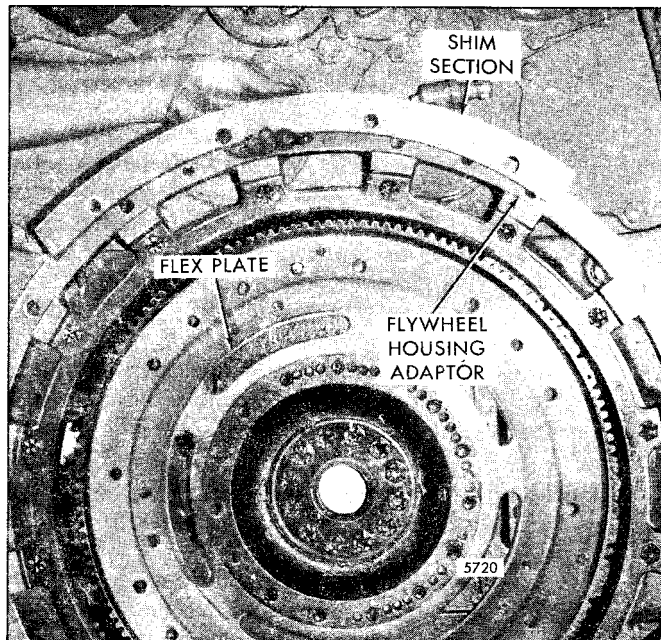

Fig. 6 - Installing Engine Flywheel Housing Adaptor Shim Section
5. If the generator measurement "A" exceeds engine measurement "B", shim between the generator magnet frame face and the flywheel housing adaptor face by the difference between these dimensions, with an allowable .002" tolerance (Fig. 6).